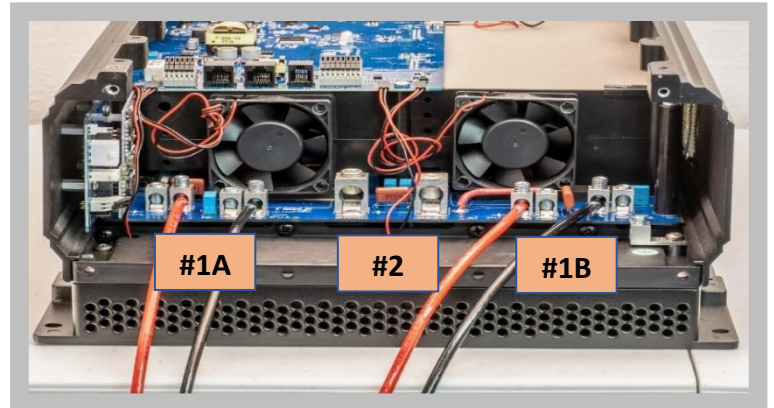

Figure 18
BARCELONA WIRING (Figure 18)
- Connect PV+ and PV- wires from PV array #1 to terminal block (**#1A**), **Figure 18**.
- Connect **#2/0 AWG** Batt+ and Batt- cables to terminal block (**#2**), **Figure 18**.